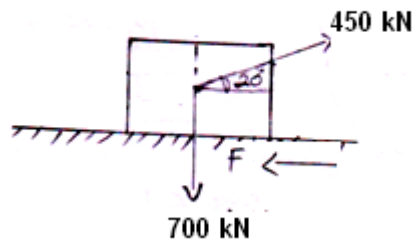

Fig. 14
Q.17	(a) Define : Friction and Co-efficient of Friction (b) Find the frictional force for the block shown in fig. 14 and state whether the block is in equilibrium or in motion. Take $\mu=0.2$